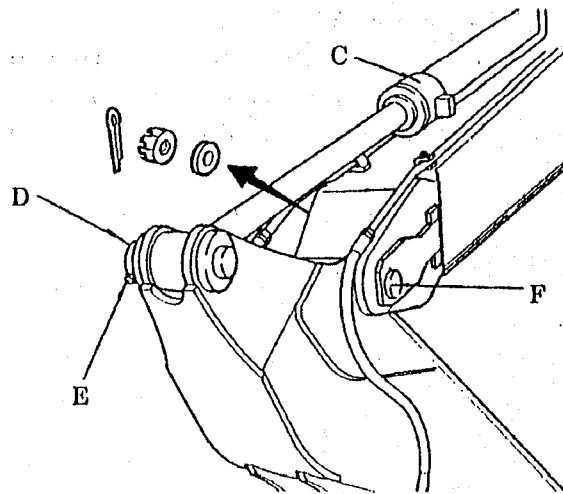

Fig. 11
3.3 REMOVING ARM (SEE FIG. 11)
3.4 INSTALLING ARM (SEE FIG. 11)